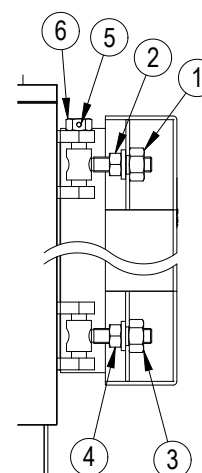

fig. 10
5.6.2 Para modelos PREXTHERM RSH 500N+950N (Fig. 10)